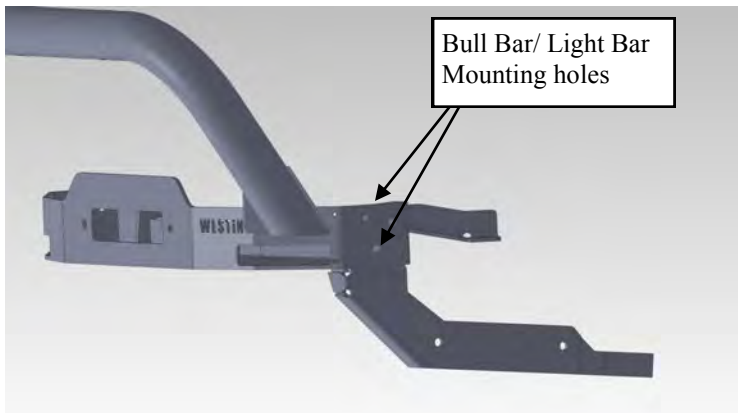

Fig 1
2. Starting at the front of the vehicle, locate the two bull bar/ light bar mounting holes on either side of the winch tray ( Fig 1).